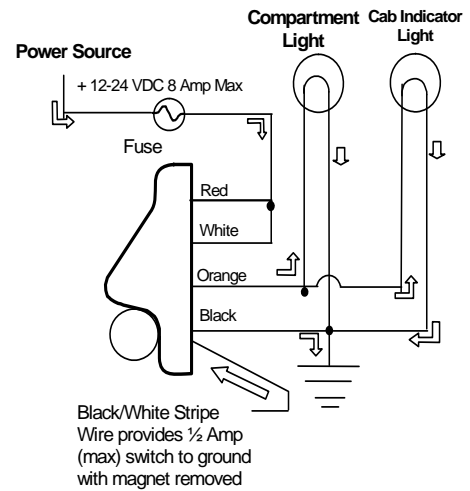

Fig.8
- c) Go to step 8 if compartment lighting has been ordered. Then, wire the switch using the wiring diagrams provided in Fig. 8.